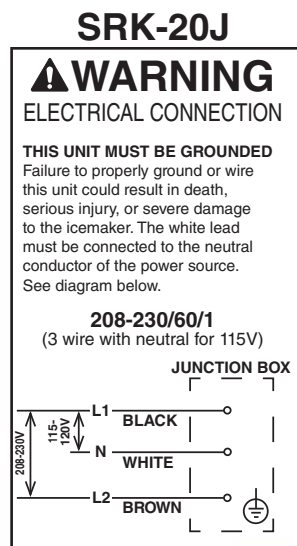

Fig. 15a
- Remote condensing unit electrical connection must be made in accordance with the instructions on the "WARNING" tag provided with the pig tail leads in the remote condensing unit's power supply junction box. See Figs. 15a and 15b.
- 3) Connect the power supply from the disconnect or electrical panel to the leads in the remote condensing unit's power supply junction box. This differs from KM style installations. Connect a ground wire to the ground screw. See Figs. 15a and 15b.